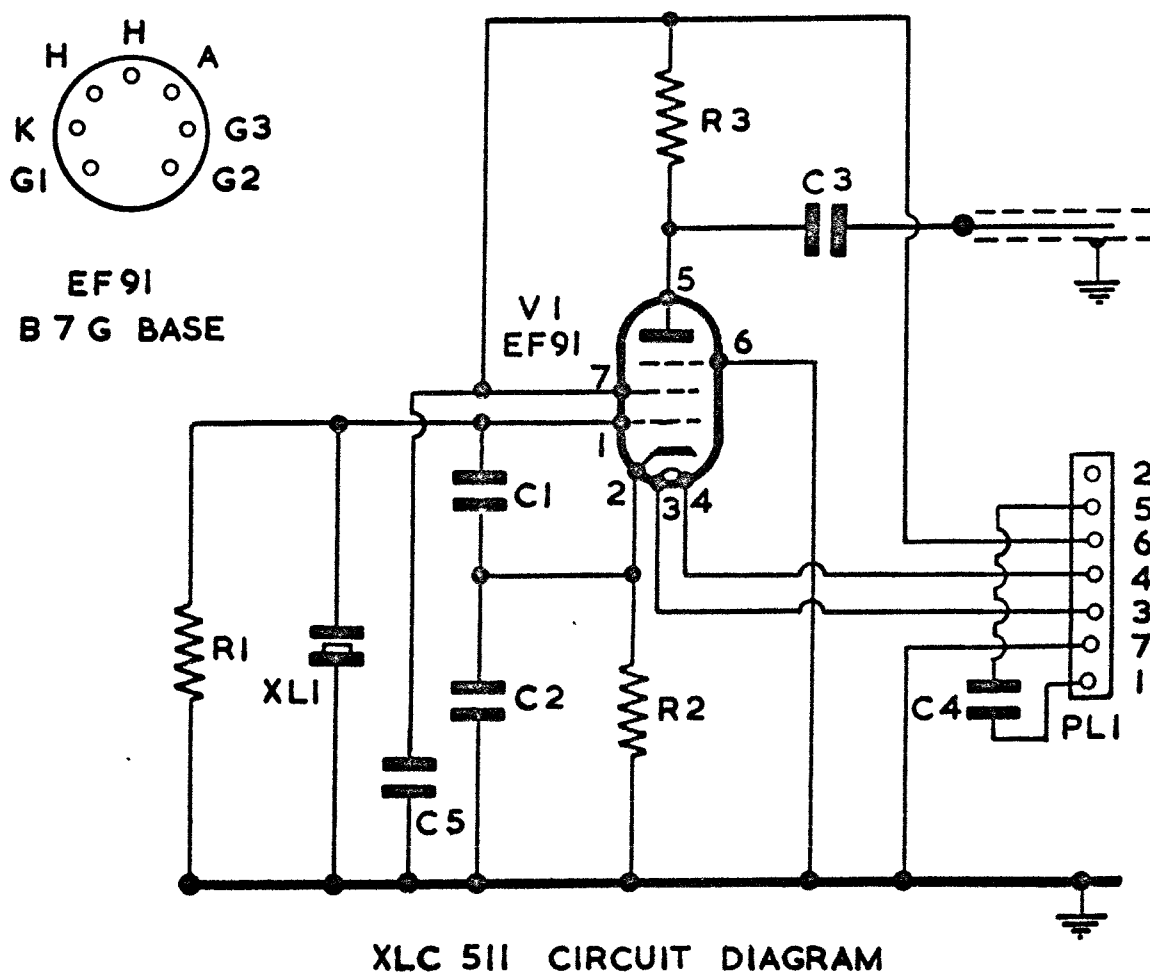

FIG. 1
- 2.3. When PL1 is plugged into the vacant valve base, the heater supply for the oscillator valve V1 in the XLC511 is obtained from pins 3 and 4 on V1 in the receiver and applied to the same pins on the oscillator valve. The anode and screen voltages for the oscillator are supplied by pin 6 of the 1st r.f. valve base while pin 7 is earthed. Pins 1 and 5 of PL1 (control grid and anode pins of r.f. amplifier valve base) are connected via a blocking capacitor C4 which enables the calibration signal to be injected into the aerial. (See Fig. 1. overleaf).